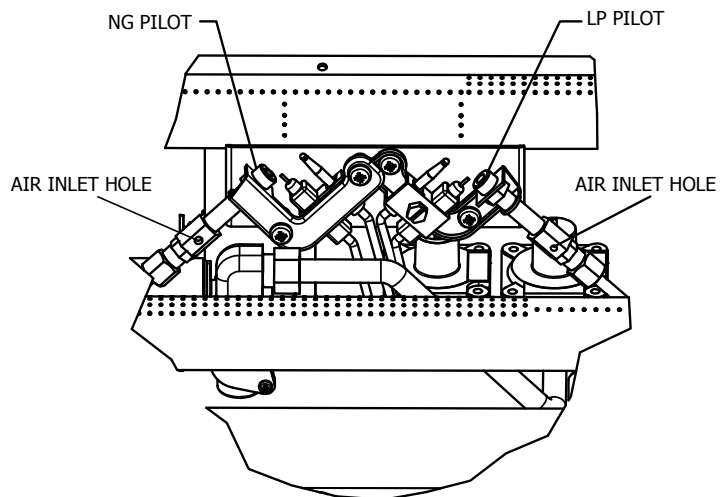

Fig. 34 - Pilot Inlet Air Hole (Propane/LP Gas)
6. In case any large clumps of dust have now been pushed into the burner repeat steps 3 and 4. Clean the pilot assembly also. A yellow tip on the pilot flame indicates dust and dirt in the pilot assembly. There is a small pilot air inlet hole about 2" from where the pilot flame comes out of the pilot assembly (see Figure 34 depending on model). With the unit off, lightly blow air through the air inlet hole. You may blow through a drinking straw if compressed air is not available.